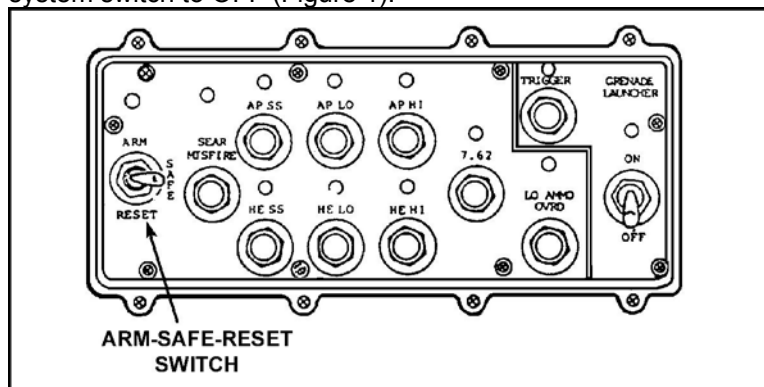

Figure 1. ARM-SAFE-RESET switch.
1. On the weapon control panel, move the ARM-SAFE-RESET switch to RESET, then to SAFE. Move the turret drive system switch to OFF (Figure 1).